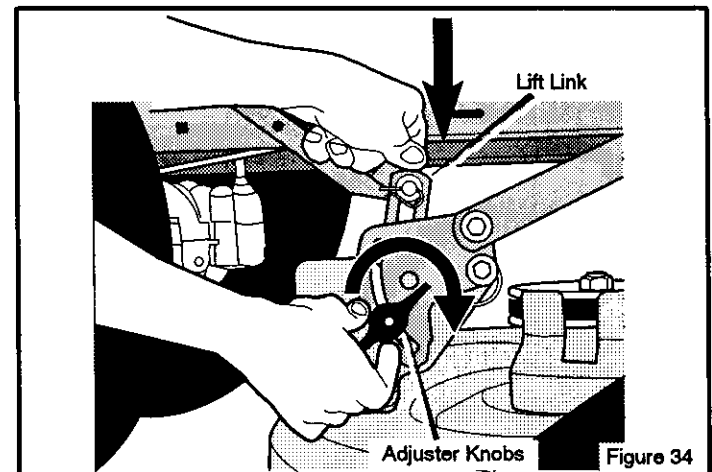

Figure 34
6. Loosen the left and right adjuster knobs (Figure 34). Push down on each side of the mower housing. Make sure both sides of the mower housing are setting on a flat surface. Also, make sure the lift links are loose and can easily move up or down.
7. Push down on the lift links and tighten the left and right adjuster knobs (Figure 34). Make sure the adjuster knobs are tight. If necessary, use a wrench to tighten the adjuster knobs.